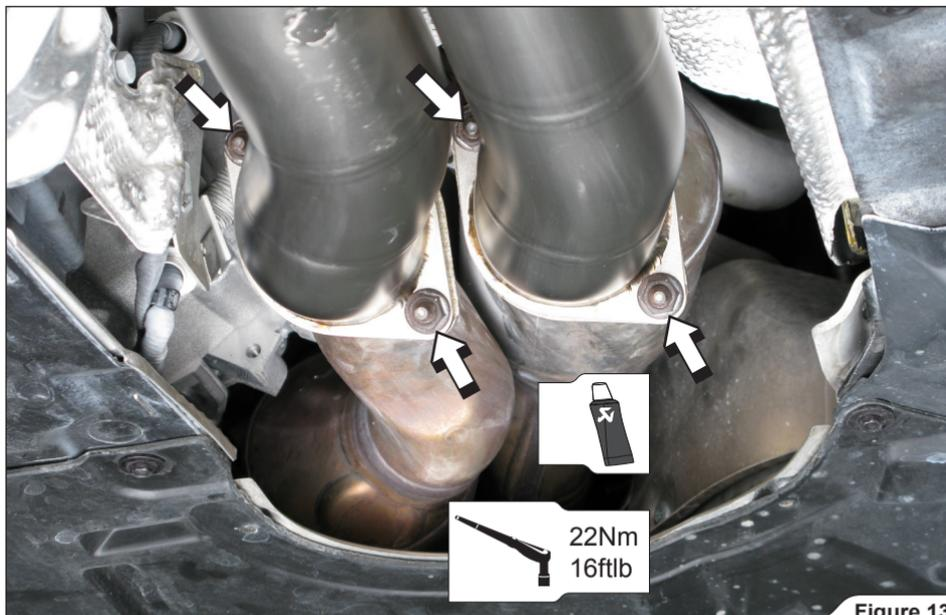
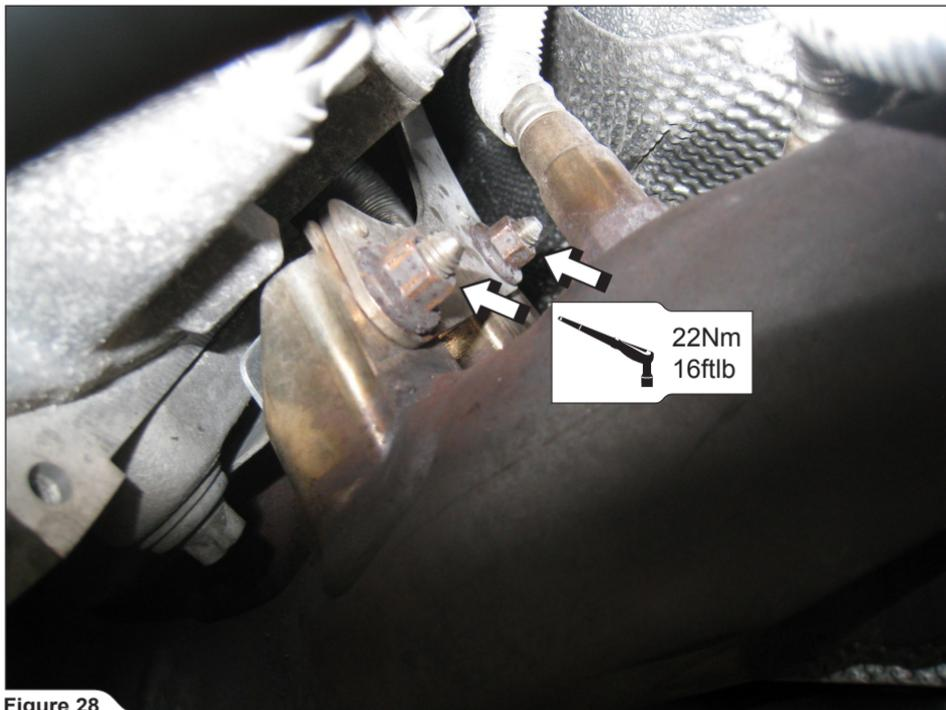

Figure 13
Figure 28
1. **For Evolution:** assemble the Akrapovič front pipes on the stock down-pipes using stock nuts (Figure 13).
14. **For Evolution:** tighten to specified torques all bolts and nuts at stock down pipe - Akr. front pipes joint and Akr. front pipes' bracket (**Page 20, 21 ; Figure 13, 14**). Adjust the stock down pipe together with Akrapovič pipes so, that the pipes don't touch any part of the vehicle (**there should be at least 10mm gap at any point**), than tighten the stock down-pipes' bracket to a specified torque (**Figure 28**).